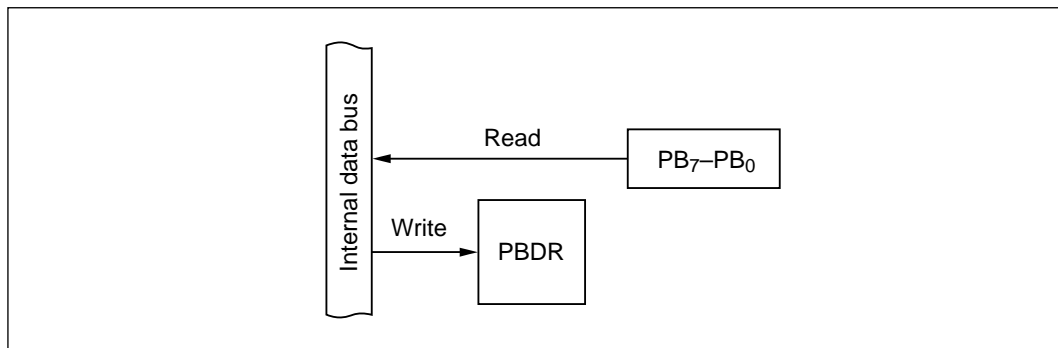

Figure 10-78 Input Port (Modes 2 and 4)
(1) Input Port (All Pins: Modes 2 and 4): Figure 10-78 shows a block diagram illustrating the general-purpose input function. Table 10-59 indicates register read/write data. Values written in the port B data register (PBDR) have no effect on general-purpose input lines. When read, PBDR returns the value at the pin.